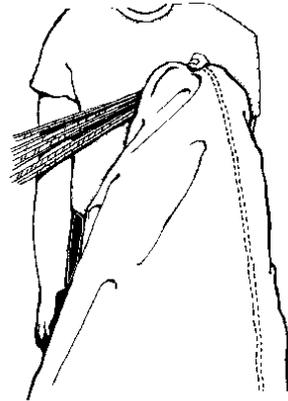

Figure 7.
Step 8.) Place the trailing edge of center cell (indicated by the Data-panel) under the thumb and lift the canopy. (See Figure 7.)